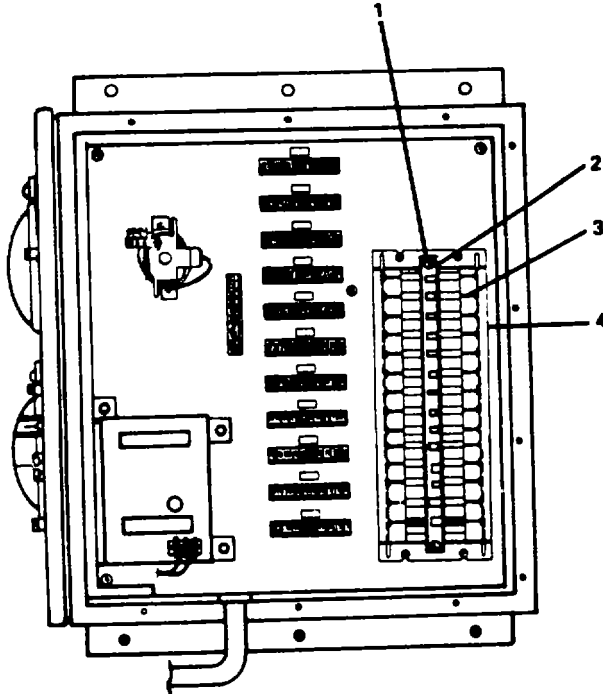

Figure 2-8. Receiver Panel. Flasher and Full-Wave Rectifier Module.
- c. Swing open front panel (2).
- d. Loosen two captive screws (1, Figure 2-8).
- e. Remove retaining bar assembly (2).
- f. Grasp flasher/full wave rectifier module (3) (labeled FL1) between thumb and forefinger. Pull straight out until separated from card rack (4).